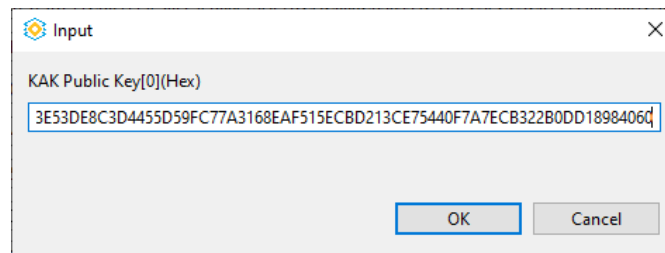

Figure 2.5. Input KAK Public Key to generate KAK public key hash
- To add the KAK Public Key Hash, you can key in the 384-bit hexadecimal value into the text field directly, or click the **Input Public Key** button to open up the KAK Public Key input dialog box as shown in Figure 2.5.